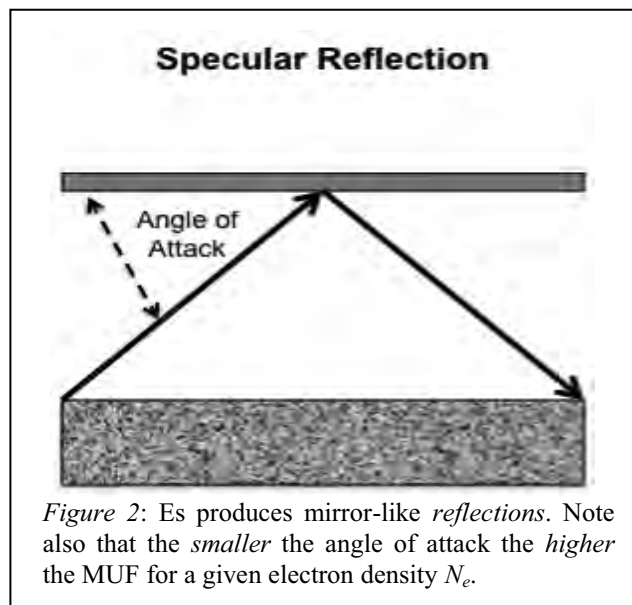

Figure 2: Es produces mirror-like reflections. Note also that the *smaller* the angle of attack the *higher* the MUF for a given electron density  $N_e$ .
**M Factor and the Angle of Attack** – Of course, aiming signals straight up to have them skip straight back down won't produce much DX. In the real world, one aims at the horizon and that changes the *angle* with which the signal hits the ionosphere. The good news is that it makes the angle *shallower*, and the shallower the angle between the upcoming radio wave and the ionosphere, the *higher* the maximum usable (skip) frequency, or *MUF*, and the *longer* the skip distance. The angle between the wave and the ionosphere is sometimes called the angle of attack or  $\alpha$ , as shown in Figure 2. The increase in the MUF that one gets from lowering the angle  $\alpha$  is related to the cosecant of  $\alpha$ . The cosec( $\alpha$ ) term is called the *M Factor*, and it directly multiplies the effect of the critical frequency  $f_c$ . The value of the MUF is then given by:
**Specular Reflection** – Another important consideration is how the skip process actually comes about. In an elementary picture of ionospheric skip, one imagines that the ionosphere presents a hard-surfaced radio mirror, as shown in Figure 2. Any upcoming radio wave simply bounces off the layer and returns to Earth. This is actually a fairly accurate view of what happens in *sporadic E* skip. In Es, there is a very thin layer of very dense ionization and the signal does experience a nearly mirror-like, or “specular”, reflection. However, this is *not* the usual case for F-layer propagation.